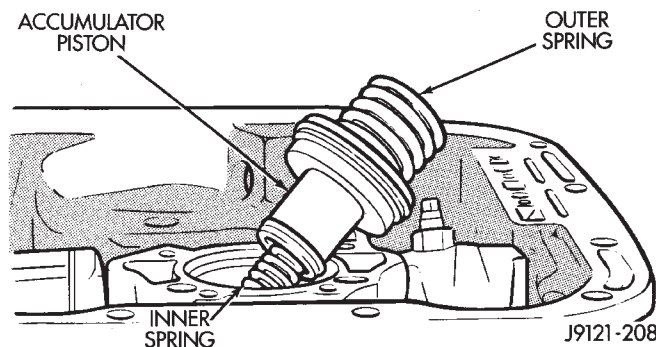

Fig. 156 Installing Accumulator Piston And Springs
(44) Carefully withdraw alignment tool from overdrive unit.
(45) Lubricate intermediate shaft splines and bushing surfaces with transmission fluid or petroleum jelly.
(46) Install overdrive unit. Be sure governor tubes are aligned with feed holes in piston retainer boss. Intermediate shaft is snug fit in overdrive planetary gear and overrunning clutch. If overdrive unit will not seat fully, rotate overdrive output shaft slightly to align splines and try again.
(47) Apply 1-2 drops of Mopar thread adhesive (or Loctite 242) to overdrive unit attaching bolts. Then install and tighten bolts to 34 N•m (25 ft. lbs.) torque.
(48) Install accumulator inner spring, piston and outer spring (Fig. 156).